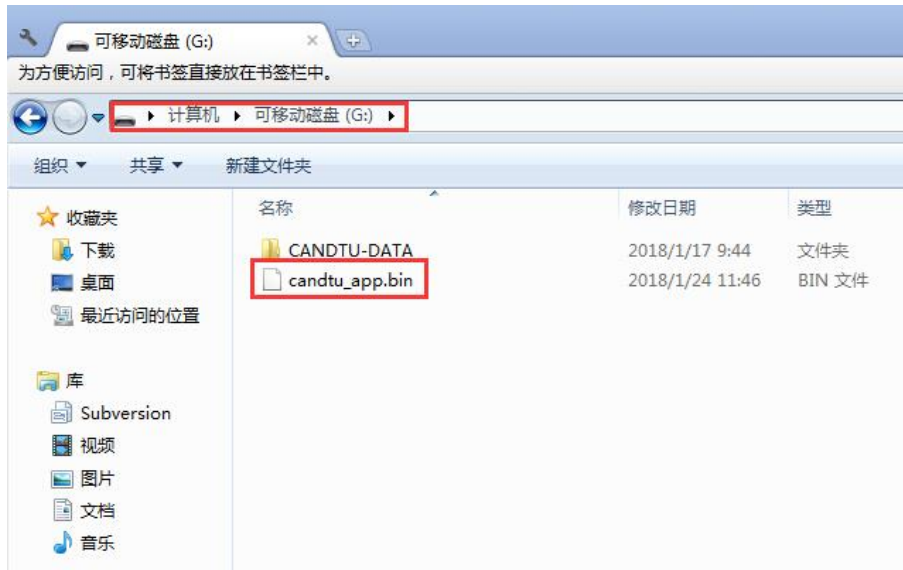

Figure 6.1 Firmware save path
- 1) Save the firmware file to the SD card. The firmware file name must be: candtu_app.bin. The storage path must be in the root directory of the SD card, as shown in Figure 6.1.